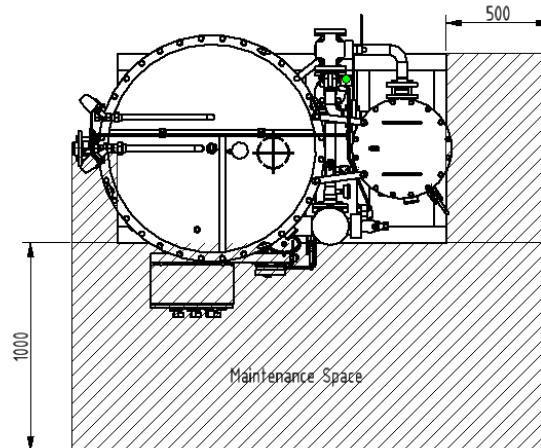
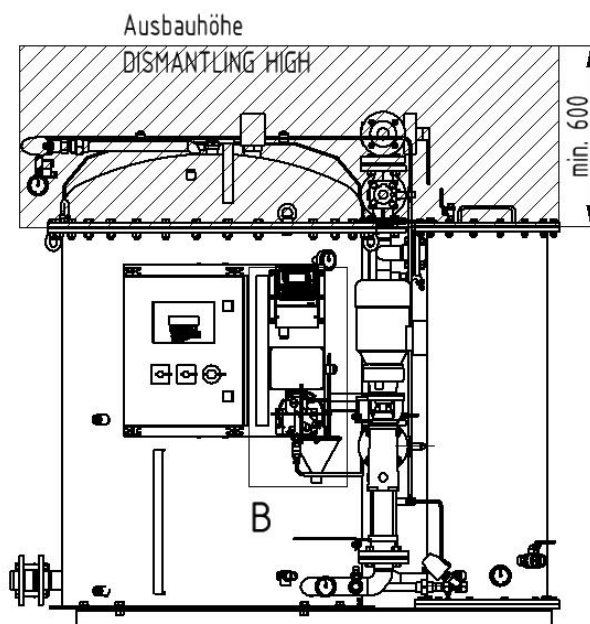

Fig. 10 Oil separator, maintenance space
Fig. 11 Oil separator, maintenance height
The unit needs a flat surface which is big enough and stable. The foundation must be welded to the ship's structure. The piping should be arranged in steel (galvanized or well coated) PN 10 (16). A freshwater tap near the unit is necessary (for connection of hose in case of cleaning). Space for maintenance must be provided (→ Fig. 10 / Fig. 11). Make sure that the area is well lit and ventilated.